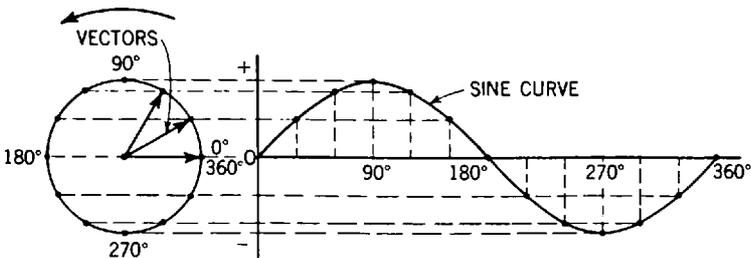

Fig. 32-17. Diagram showing the relationship between the vector and sine-curve methods of representing alternating currents and voltages.
The instantaneous electromotive force produced by the generator may be represented by dropping a line from the tip of the arrow perpendicular to the horizontal diameter of the circle. The length of this line (AB) will indicate the instantaneous value of the electromotive force. By plotting these instantaneous values against degree of rotation, as in Figure 32-17, we once more obtain our sine curve.